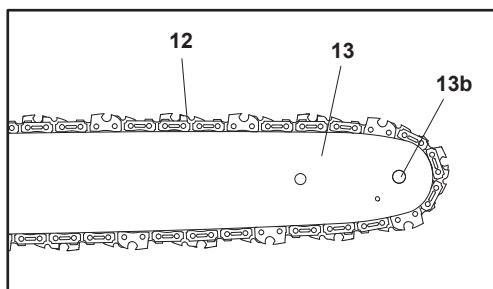

Fig. 4
7. The saw chain direction is as indicated by the arrow. Make sure the saw chain (12) is properly placed over the sprocket wheel (13b) of the guide bar (13) (Fig. 4).